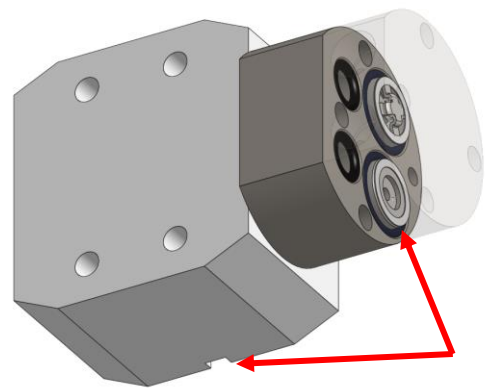

Figure 5
4. Place white washers on all valve pockets. Place valves and two sets of o-rings (110/116) on stuffing boxes. Note orientation of valves. "O's" (inlets) should be nearest bottom notch on crankcase when finished. Flip heads onto stuffing boxes. See Fig. 3-5. Figure 5 is for later when ready.
7. Place SS washer on crank case side pocket and position head/stuffing box appropriately on crank case. See Fig. 5. Use four bolts (one being short) to secure system. Small bolt goes in middle of curve on head. Finger tighten ONLY.
8. Press in both tubes and plunger in their respective spots. Place SS washer in crankcase side pocket and position head/stuffing box appropriately on crankcase. See Fig. 5. Use four remaining bolts to secure system. Small bolt goes in middle of curve on head. Tighten all six bolts fully.